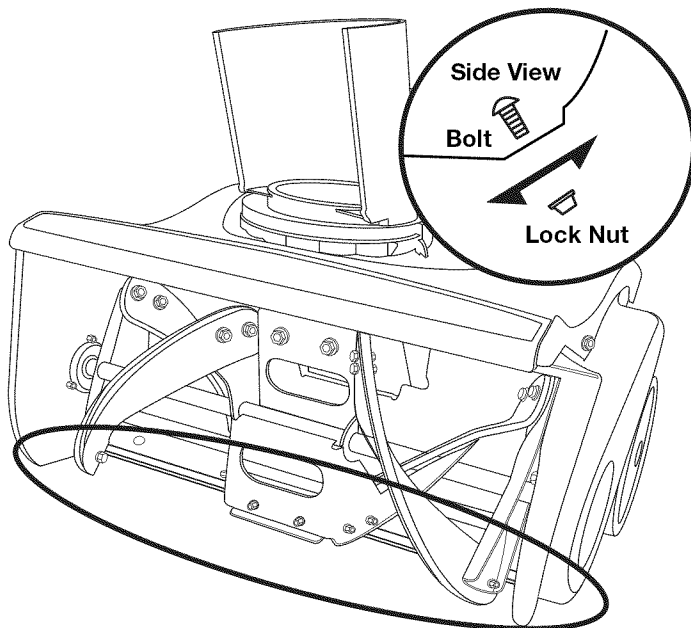

Figure 16
4. Loosen the four lock nuts and bolts that secure the shave plate to the housing. Move the shave plate to the desired position and retighten the nuts and bolts securely (see Fig. 16).